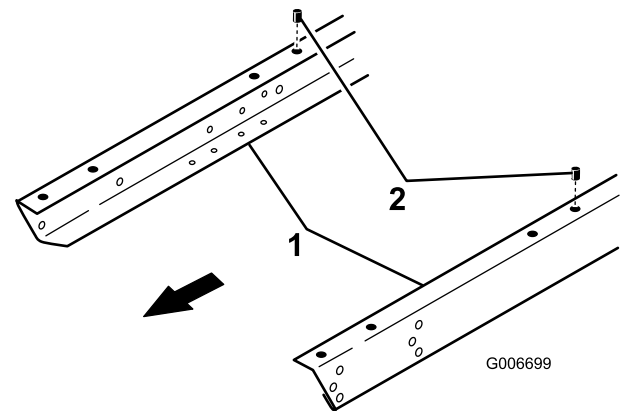

Figure 11
25. Locate and remove the threaded insert from the mounting hole in left and right vehicle frame channels, as shown in Figure 11.